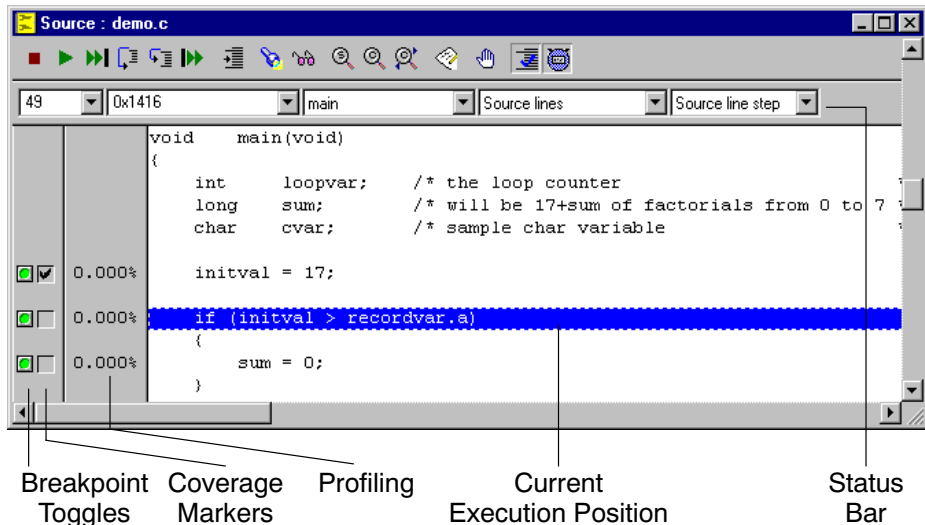

Figure 1-8: Getting Control
- Set a breakpoint at the entry of in **main()** by clicking on a breakpoint toggle at the left side of the text in the Source Window. See figure 1-8.
- Click on a breakpoint toggle (as shown in figure 1-8) to set or to remove a breakpoint. A green colored toggle shows that no breakpoint is set. A red colored toggle shows that a breakpoint is installed. An orange colored toggle shows that an installed breakpoint is disabled.